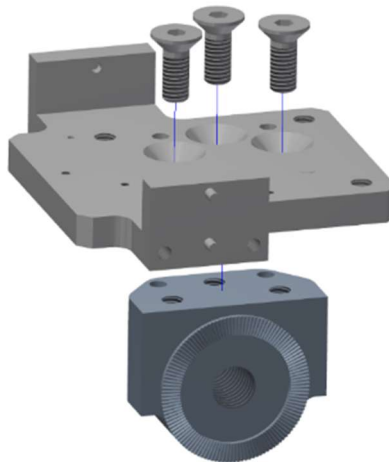

Figure 6-37. Attach the Top Lumbar Posture Gear (474-306-A5) to the Lumbar Posture Adjustment Spinebox Interference Plate (474-3072)
- 6.3.7 Attach the Top Lumbar Posture Gear (474-3065-A) to the Lumbar Posture Adjustment Spinebox Interface Plate (474-3072) using three M6 X 1 X 16 LG. FHCS (Figure 6-37).